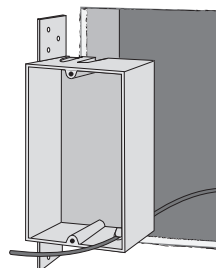

figure 11
1. Insert the low voltage wire into the mounting box through one of the designated openings, and fasten within the wall at the determined location (**figure 11**).